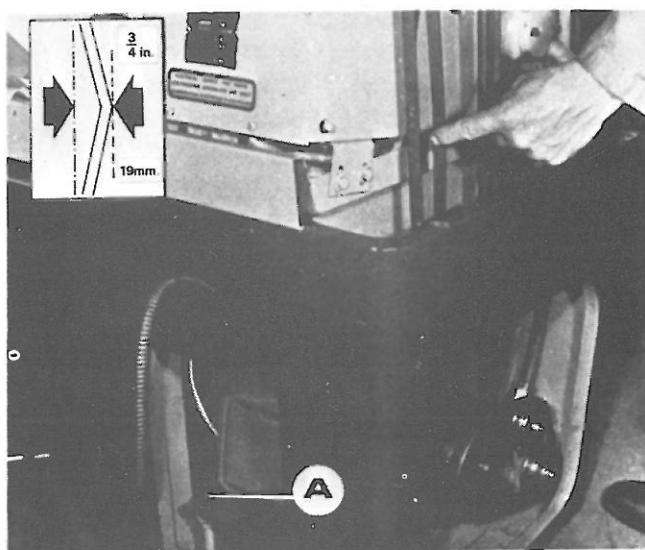

Fig. 20
To alter belt tension, remove the cover plate behind the headstock plinth and adjust the two screws (A) on the hinged motor platform (see Fig. 20). Ensure that the motor axis is kept level.